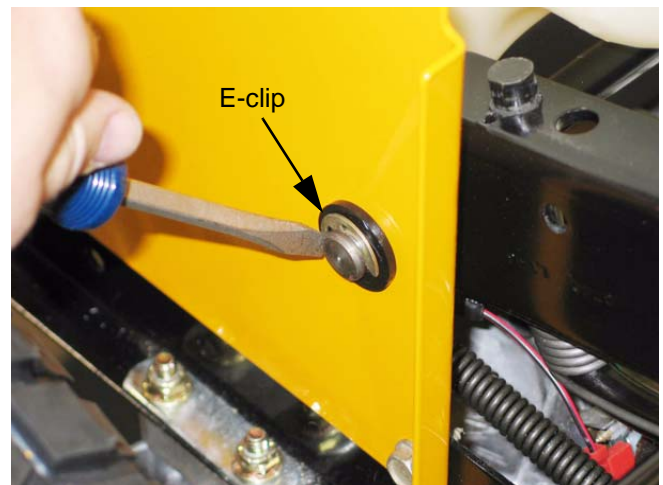

Figure 11.7
- 11.7. Remove the E-clip from each end of the lift-shaft. See Figure 11.7.